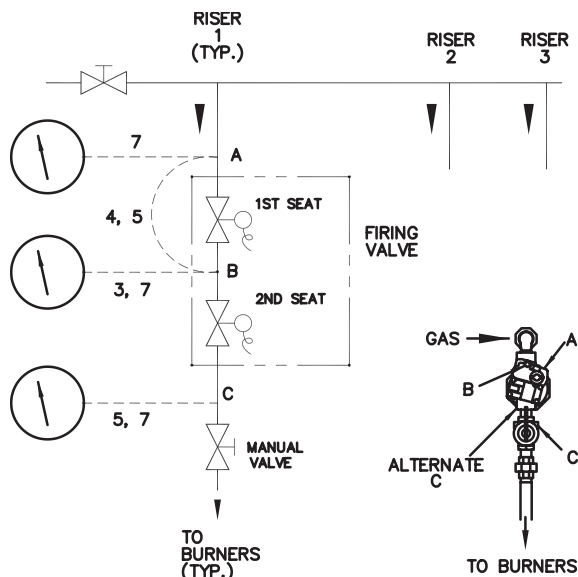

Fig. 45: Leak Test
Refer to Fig. 45. The numbers on the diagram refer to the steps below:
6. Perform leakage test on gas valves. (See Fig. 45.)